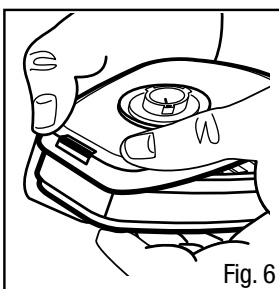

Fig. 6
2. Engage back snap by squeezing back side of cartridge and adapter together using the same hand positions. An audible click should be heard as each snap is engaged (Fig. 6).